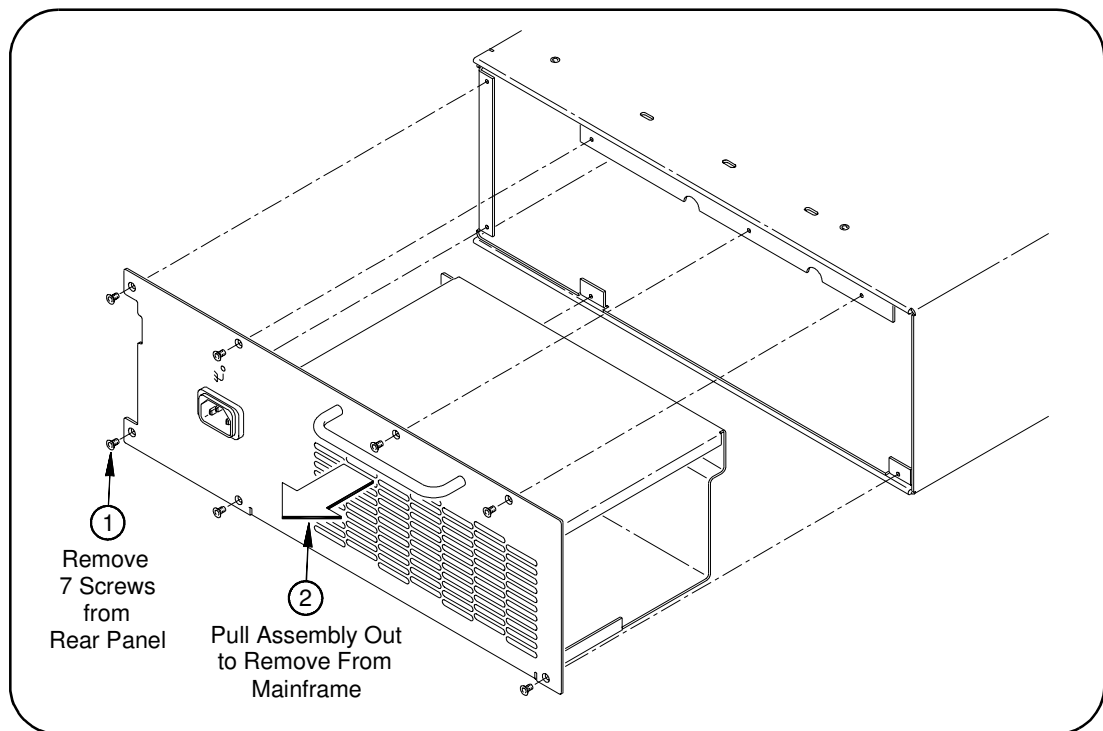

Figure 3-3. Removing the Power Supply Assembly
This section gives guidelines to replace the Power Supply Assembly (E8408-69005 [Standard] or E8408-90006 [Option 001]) in the E8408A mainframe (see Figure 3-3).
- 2 Follow the steps in Figure 3-3 to remove the Power Supply Assembly.
- 3 Reverse the steps in Figure 3-3 to replace the Power Supply Assembly and to restore the mainframe to its original configuration.